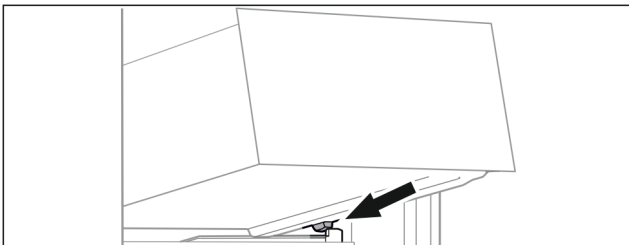

Fig. 22
- ▶ Place drawer on the molded ribs behind the stoppers with the drawer tilted up at the front Fig. 22 () .